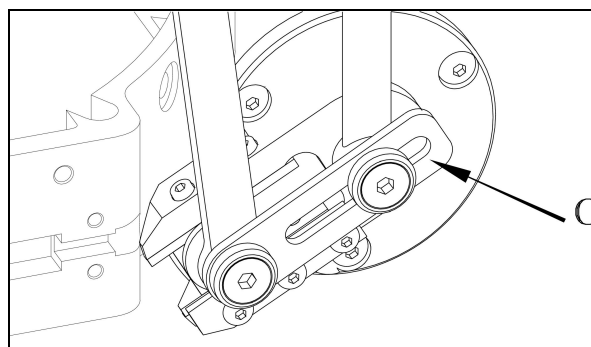

Fig 2
3. Remove the stitch regulator link (C), Fig 2.